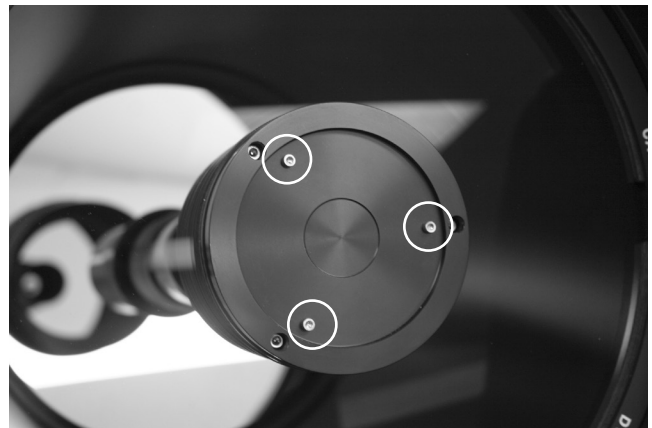

Fig. 15. Collimation screws
- a. The only adjustments possible, or necessary, on the Advanced Coma-Free Telescopes LX600 ACF models are from the three screws (as shown in Fig 15.)